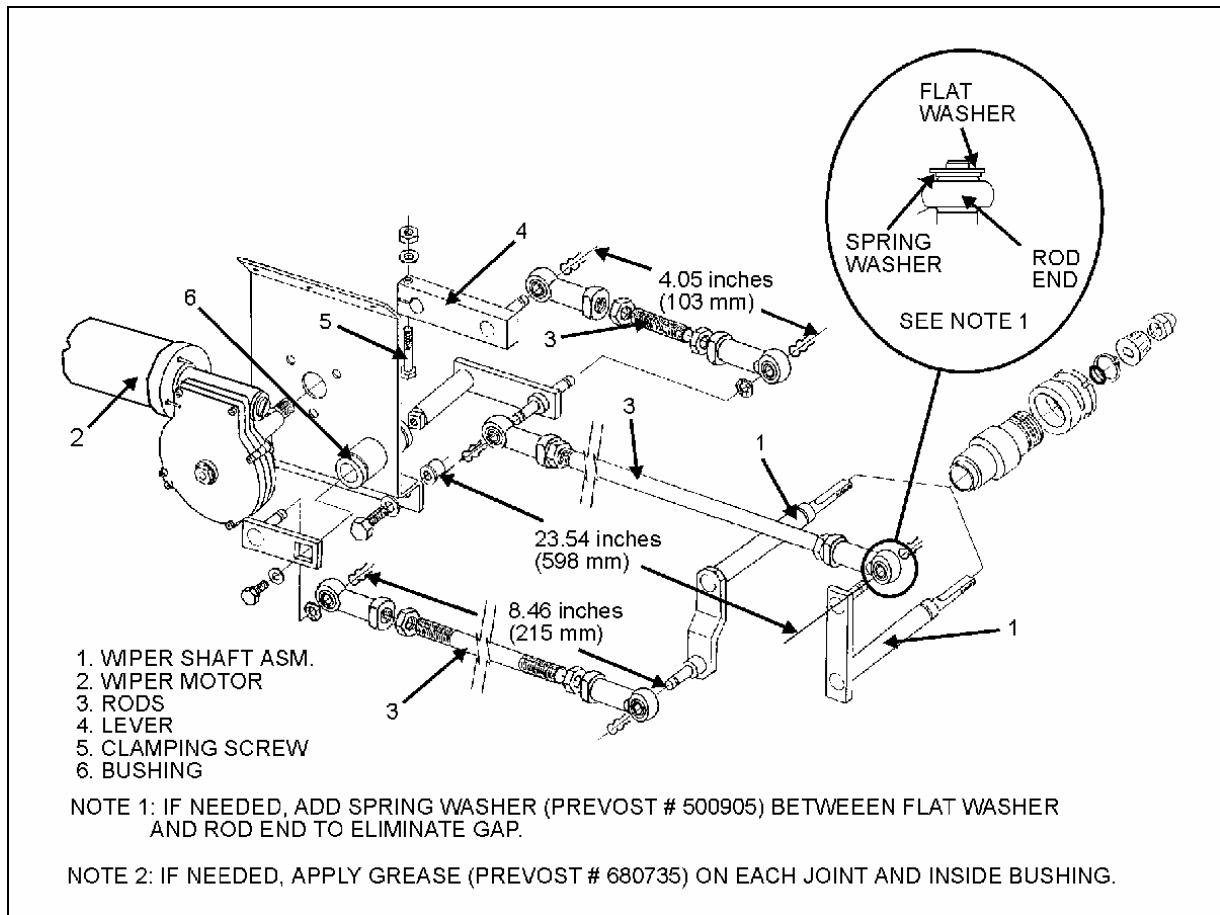

FIGURE 37: UPPER WINDSHIELD WIPER INSTALLATION
2. Adjust rods length (Fig. 37).